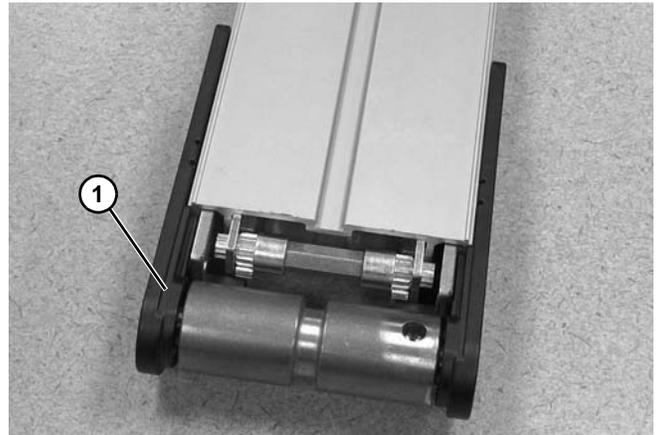

Figure 156
11. Reinstall idler tail by sliding tail assembly (Figure 156, item 1) fully back onto conveyor frame.